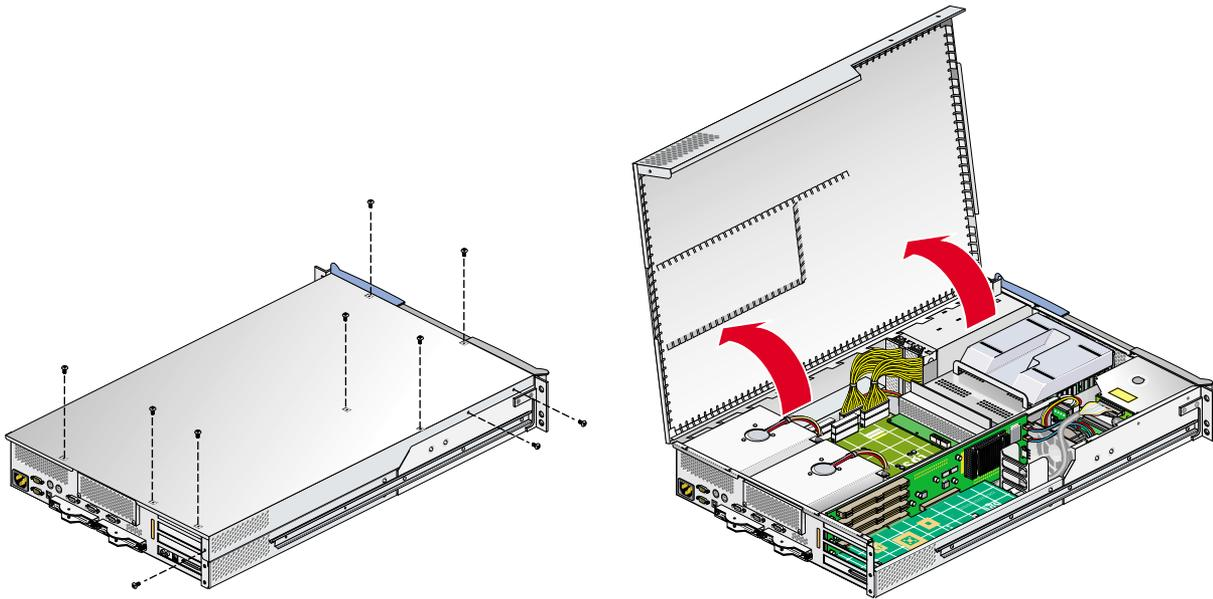

Figure 7-23 Opening the Module to Access the L1 Controller Display
5. To access the area where the L1 display is replaced, remove the ten Phillips screws shown in Figure 7-23 and lift and open the hinged cover.